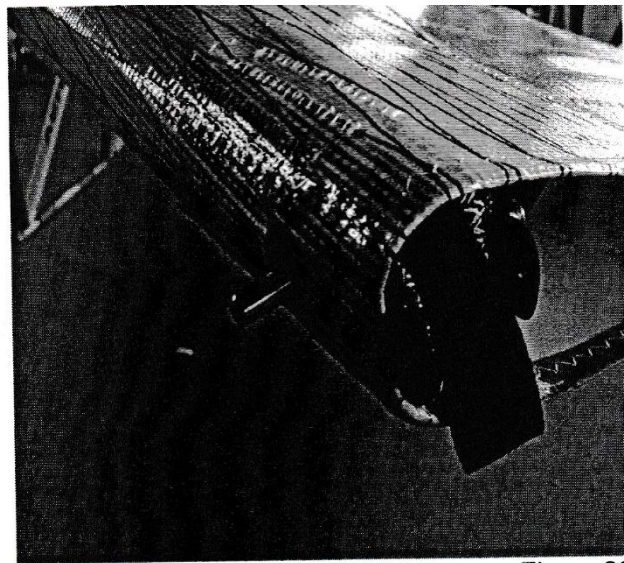

Figure 60
4. Remove the winglet fixing rod (fig. 60).